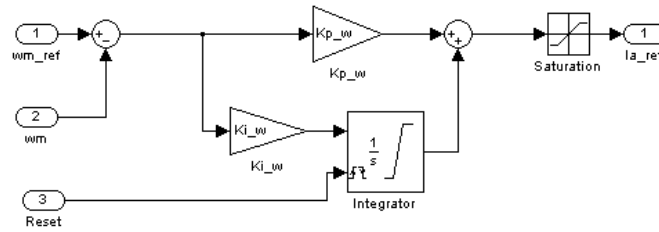
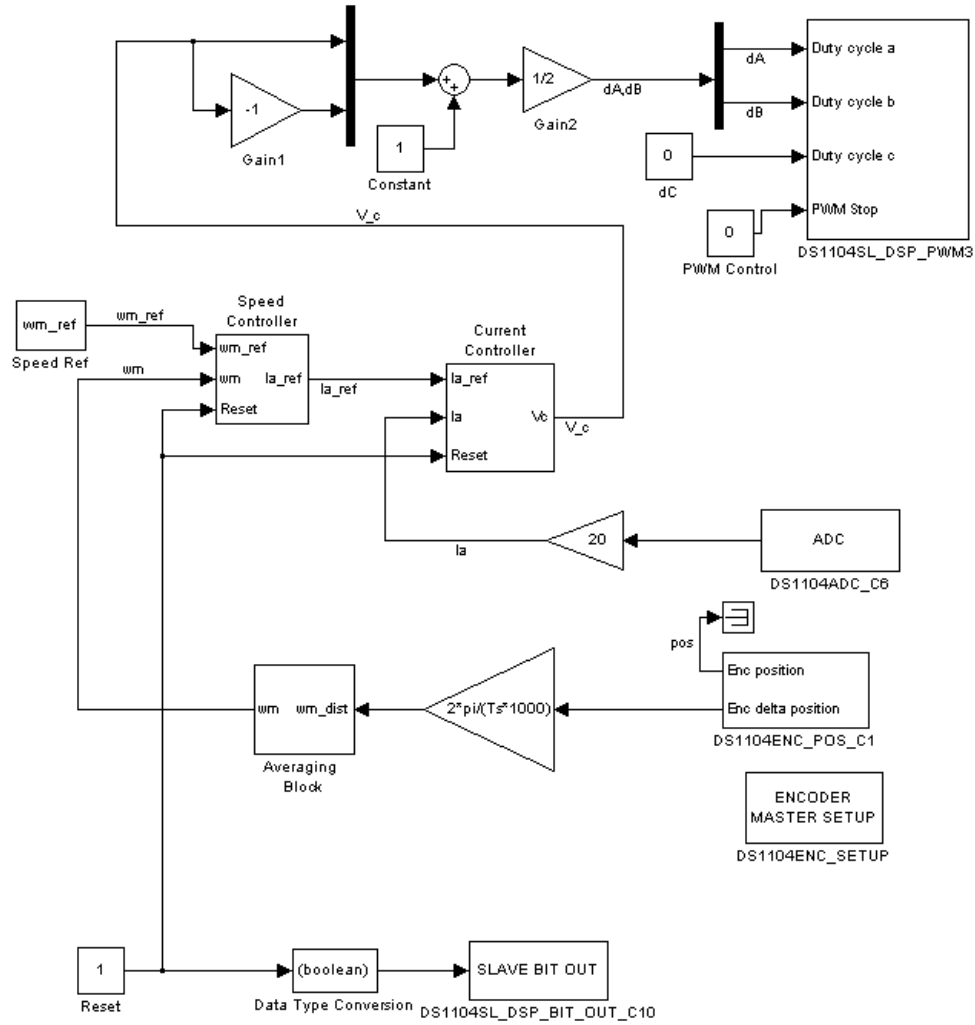

Figure 5.6: Simulink model for real-time speed control of DC Motor Control
Figure 5.7: Simulink model for real-time implementation of DC Motor Control
- Modify the Speed Control block as shown in Fig. 5.6. Change the integrator block parameters by double clicking on it and changing its external reset to either. Open the Current Controller and change its integrator's reset as was done in the Speed Control. Connect the reset inputs of speed controller and current controller as shown in Fig. 5.7. These changes allow the integrators to start up correctly in the real-time environment.
- Set the simulation parameters with T_s as sampling time and inf as total simulation time. Now, the model looks like in Fig.5.7.